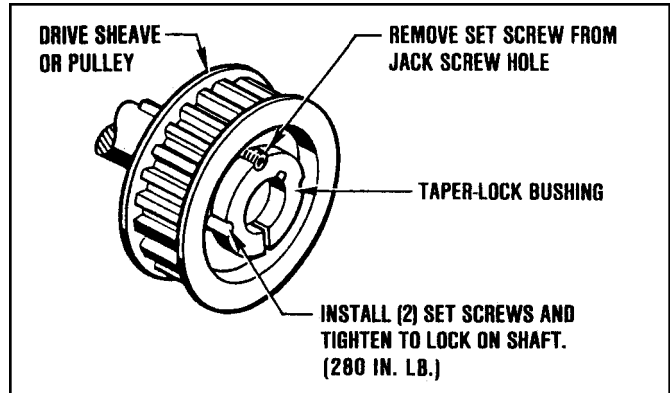

Figure 9.16 - Installing Pulley with Taper Lock Bushing
- Assemble the Taper Lock Bushing and the Drive Sheaves or Pulley with the (2) Set Screws placed in the (2) Locking Holes.
mize overhang shaft deflection. Tighten (2) Set Screws to lock it on the Input Shaft. (See Figure 9.16)